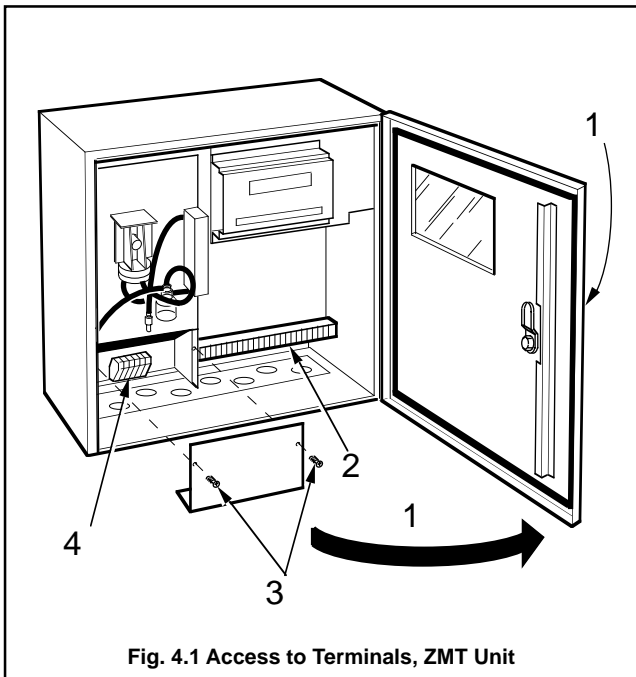

Fig. 4.1 Access to Terminals, ZMT Unit
4.1 Access to Terminals – Fig. 4.1 and Fig. 4.2
4.1.1 ZMT Unit – Fig. 4.1
- ① Unlock and open the door, hinged at the right hand edge (turn key clockwise to open).
- ② Identify the signal connections terminal block.